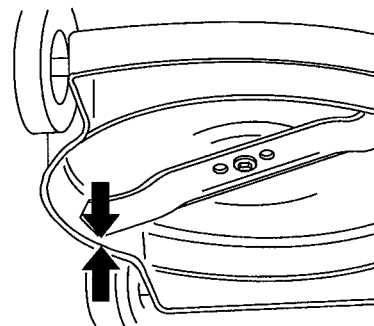

Figure 22
2. Measure the distance from the bottom edge of the mower housing to the blade tip (Fig. 22). Rotate the blade 180° and measure to other blade tip.